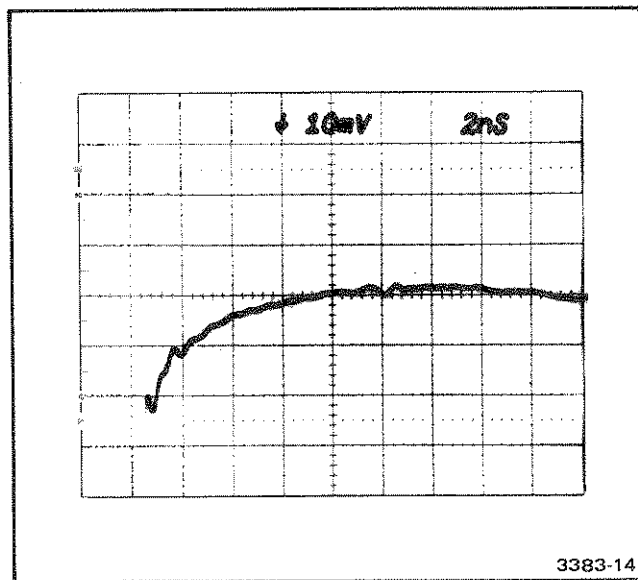

Fig. 4-4. Typical sampling oscilloscope response display.
k. CHECK—that the aberrations are within 2% (1 div). Refer to Fig. 4-4.
s. Position the display to measure the waveform risetime. Refer to Fig. 4-4.